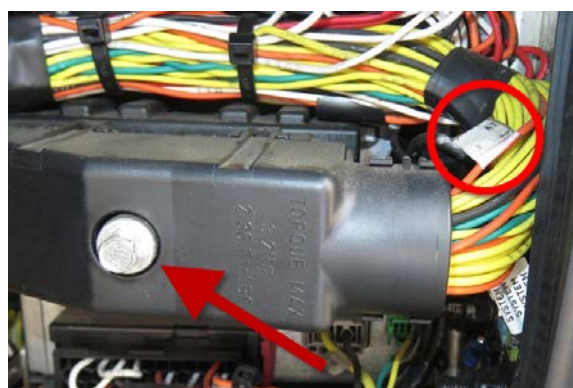

Figure 34
69. Loosen the screw on the A1 module connector using an 8 mm socket wrench and disconnect it (Figure 34).